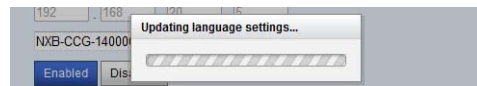
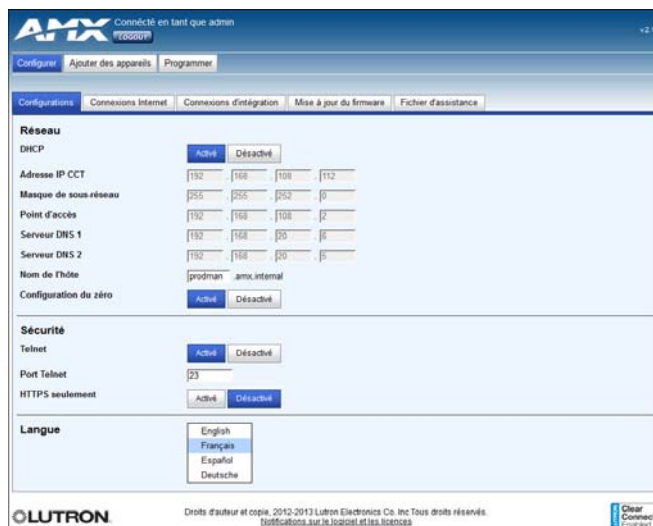

FIG. 12 Updating Language Settings
FIG. 13 Web interface in French
2. Click on the **Change Language** button to switch the Web Interface language. This may take several seconds (FIG. 12). FIG. 13
3. The Web Interface pages will now display information in the chosen language (FIG. 13). You may switch back to any of the four languages at any time.